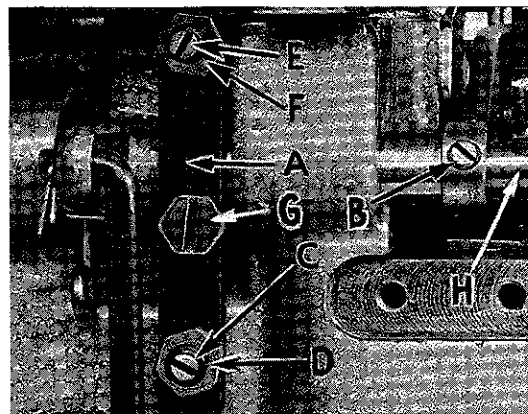

Fig. 16
Assemble the presser foot to presser arm. With needle in high position, swing presser arm into sewing position and set the presser foot to align needle holes (front and back) and flat on throat plate. The front edge of needle hole in presser foot must be aligned with front edge of needle hole in throat plate. It is also important that the bottom of the presser foot be flat on the throat plate. If necessary, presser foot can be realigned with throat plate slots by shifting the foot lifter lever shaft (H, Fig. 16). To move the shaft, loosen collar screws (B, Fig. 16) and clamp
The foot lifter lever arm (A, Fig. 16) and the collar (B) secure the shaft. Be sure the presser arm does not bind and rise when presser foot release bushing is unlocked.